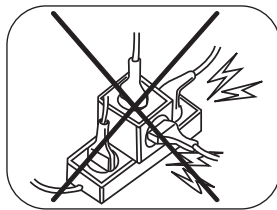

Fig. 3
- 3►**Never** use extensions, voltage transformers or any kind of adapters (Fig. 3, page 8).